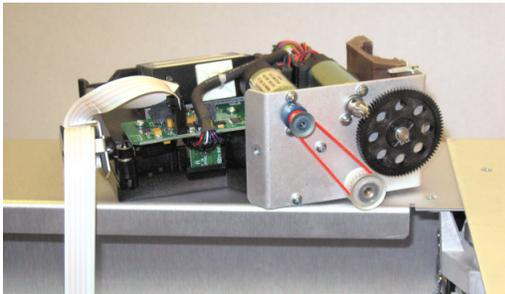

Figure 3. Set the Shuttle Aside; PCB Up
- Without twisting the shuttle flex cable, set the **shuttle assembly** (with the PCB up) on the top edge of the unit (Figure 3).